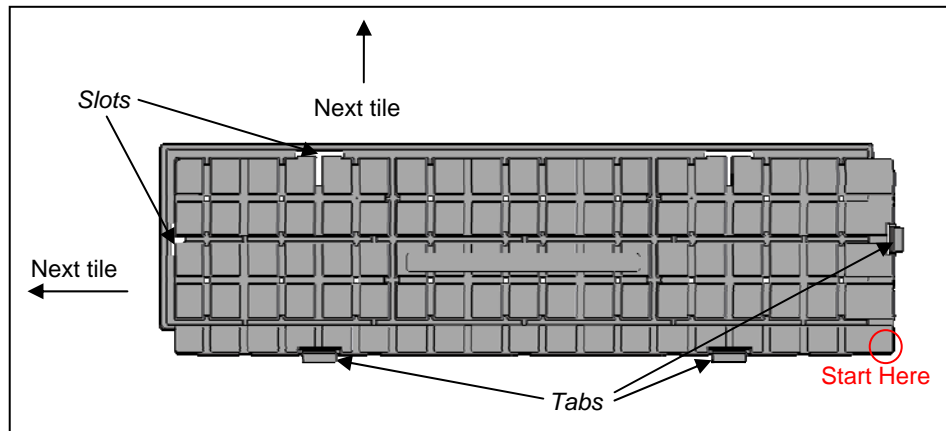

Figure 2
1. Establish a starting point for the installation. The first tile should be placed with the slots facing the installation direction (see Figure 2 below). Subsequent tiles will lock into the first by placing the tabs in the slots.